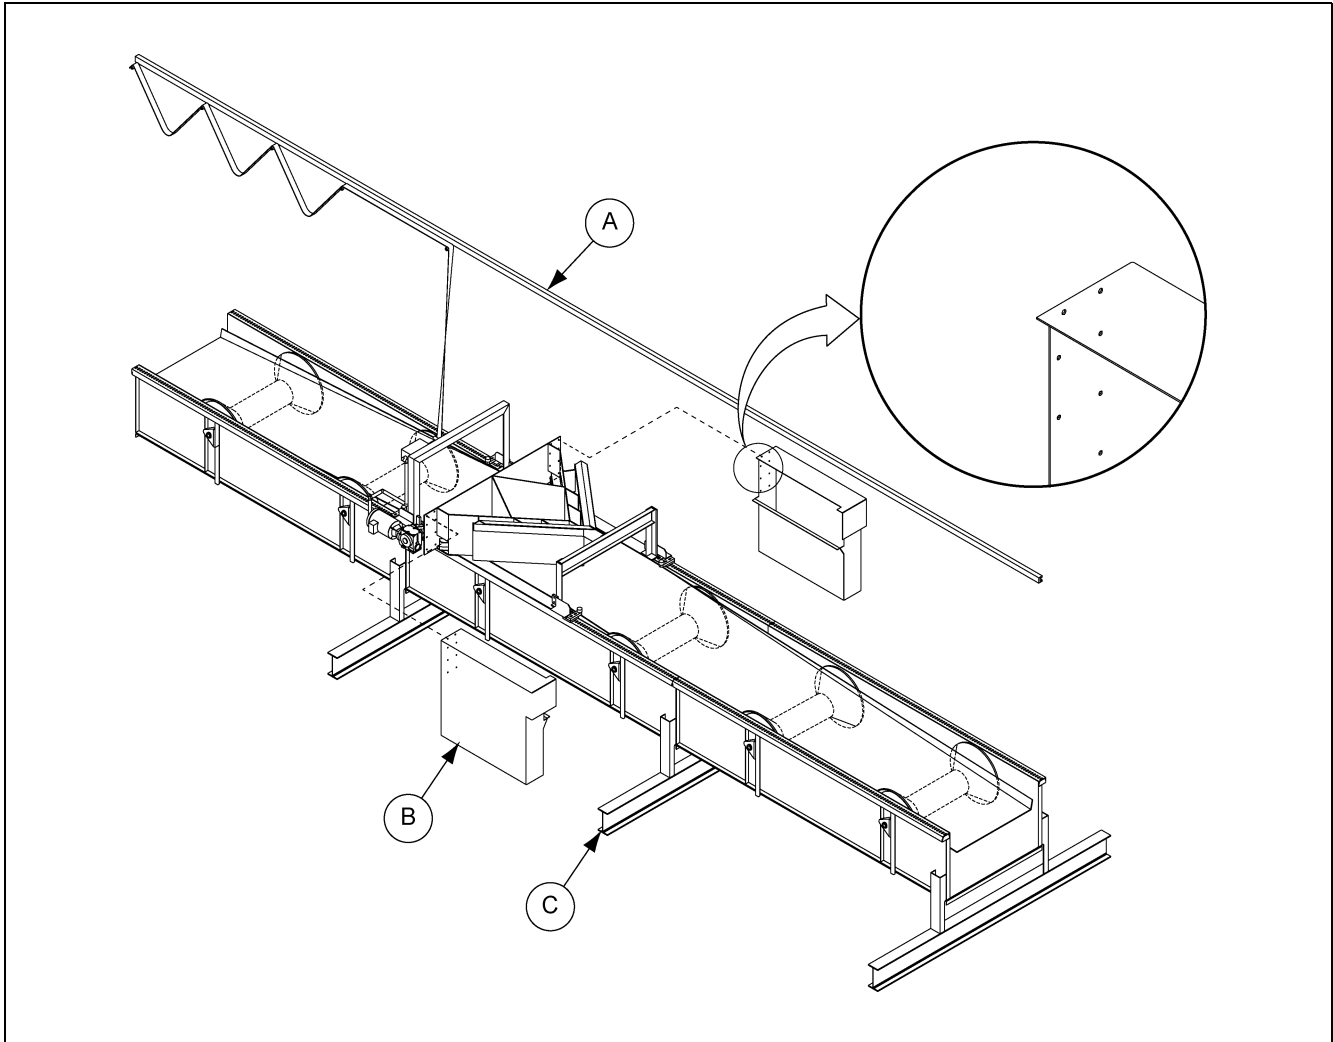

Figure 4W *Plow Section Assembly*
Movable discharge plows are an additional feature that allows for the discharge position to be at almost any point along the conveyor. The plow sits on top of interconnected sections that have rails running along the top of the sections that help support and guide the plow as it traverses the conveyor. (See Figure 4W.) Two (2) P/A sections are sent that will make the transition from a standard conveyor section to a plow section all-in-one. Installation procedures will again follow the conveyor assembly instructions on Page 17.
Two (2) discharge chutes (B) will be shipped separately from the plow assembly. They are easily attached to the plow upon shipment once the liner bolts shown in detail view of Figure 4W have been removed. After those holes have been lined up with the rear of the plow simply re-attach the bolts through the liner, discharge chute, and the plow assembly to complete installation.